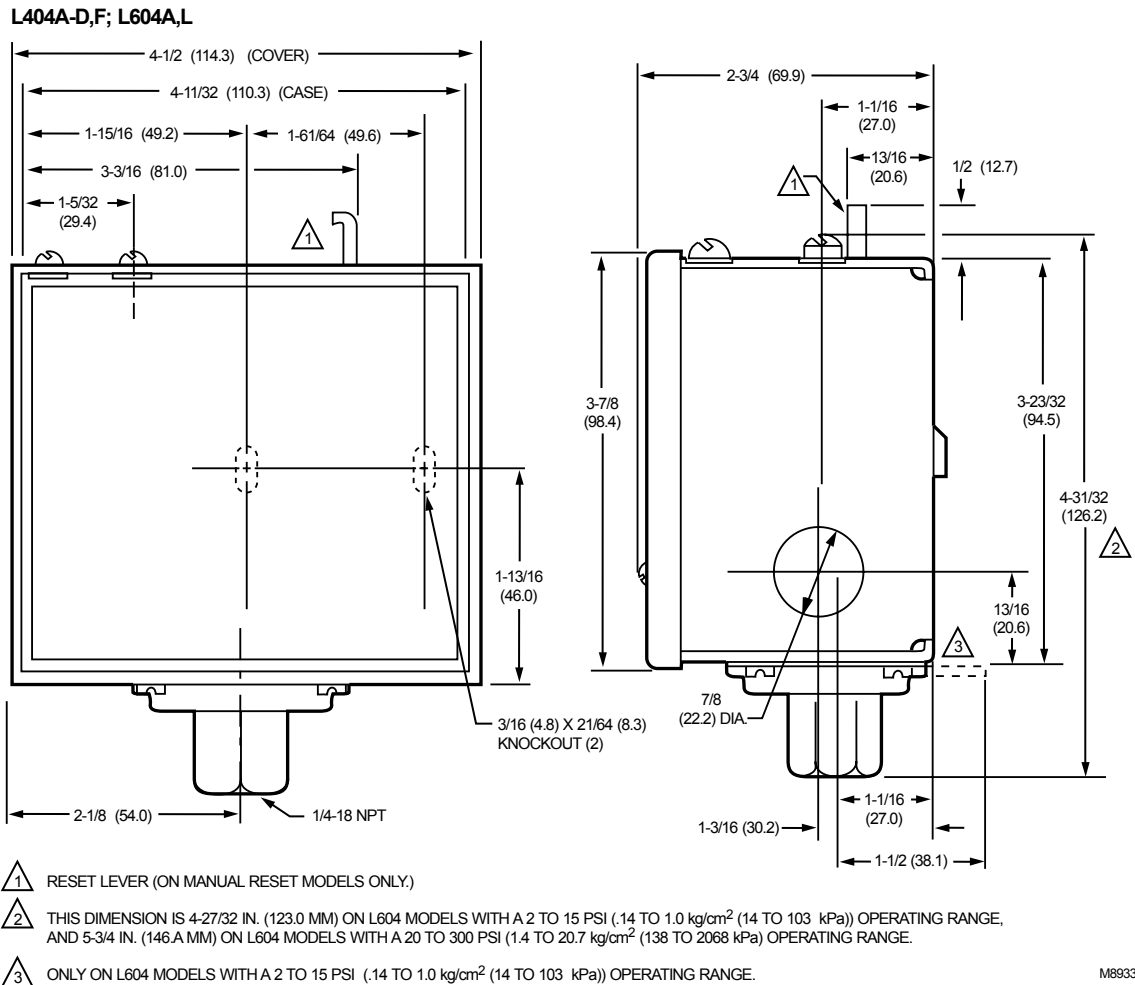

Fig. 1. Mounting dimensions of the L404A,B,C,D,F and L604A,L Pressuretrol® Controllers in in. (mm).
**Dimensions:** See Fig. 1. See Fig. 2 for mounting steam trap (siphon loop).